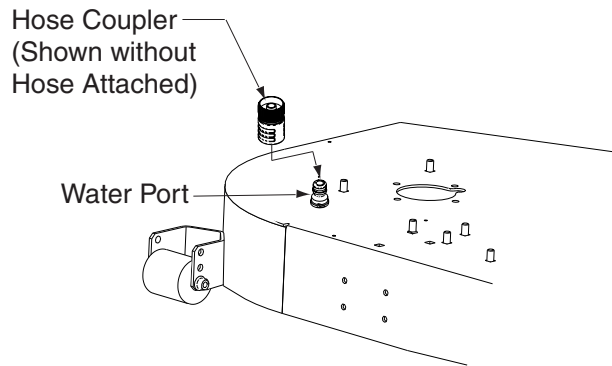

Figure. 6
- Thread hose coupler (packaged with this manual) onto the end of your garden hose. See Figure 6. Attach the hose coupler to the water port on your mower deck's surface. See Figure 6. Turn the water on.
- Remove six linchpins (See Fig. 6) (4) from the deck and (2) from the front of the mower. Remove the linchpins on the left and right rear side of the cutter deck (2); remove the linchpins on the left and right front side of the cutter deck (2); and remove the linchpins on the front of the mower (2).